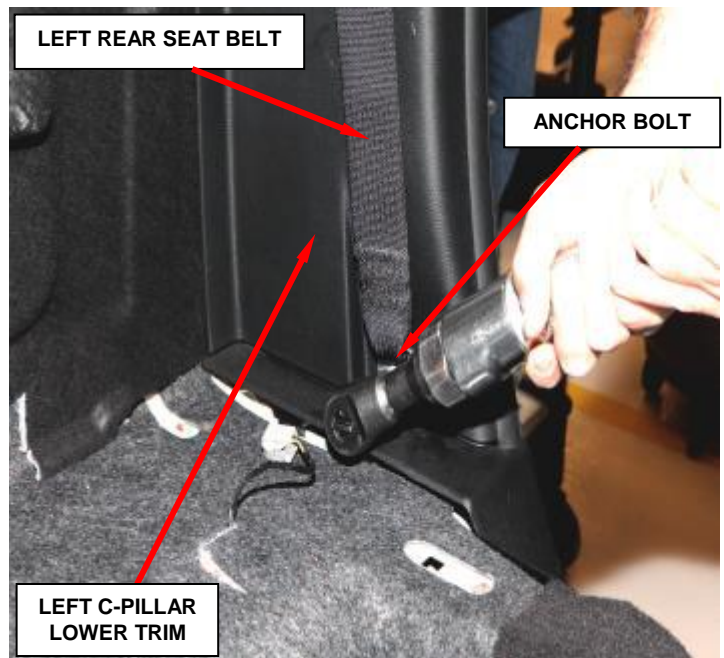

Figure 7 – Left Rear Seat Belt Anchor
- 8. Remove the left rear seat belt anchor bolt (Figure 7).